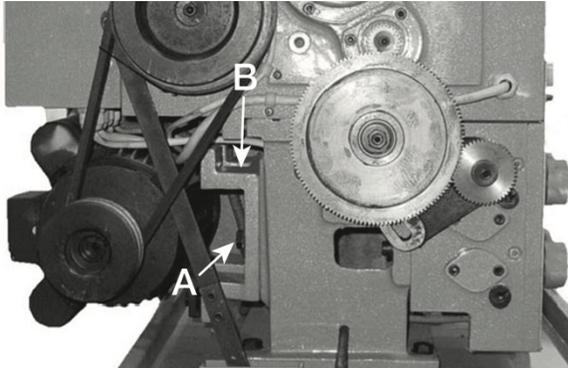

Figure 14-6: Belt Adjustment
- Loosen three motor base plate bolts (A, Figure 14-6). Place scrap piece of wood under motor to act as lever. Lift motor up and block temporarily.
- Tension belt by tapping down on or pushing down on motor base plate (B, Figure 14-6) and tightening the three motor base plate bolts. The target tension is 1mm of deflection for every 100mm of belt span.